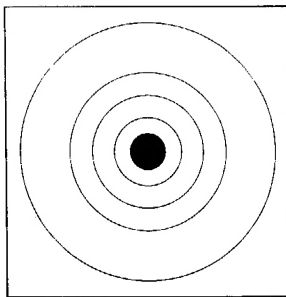
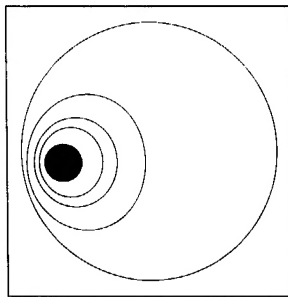

Fig. 10A.
Fig. 10B.
1. Bring the star image slowly out of focus until one or more rings are visible around the central disc. If the collimation was performed correctly, the central star disk and rings will be concentric circles, with a dark spot dead center within the out-of-focus star disk (this is the shadow of the secondary mirror), as shown in Fig. 10A. (An improperly aligned telescope will reveal elongated circles, Fig. 10B, with an off-center dark shadow.)
2. If the out-of-focus star disk appears elongated (Fig. 10B), you will need to adjust the primary mirror tilt hex screws of the primary mirror cell. Adjust the hex screw on the mirror cell until the circles are concentric on either side of focus.